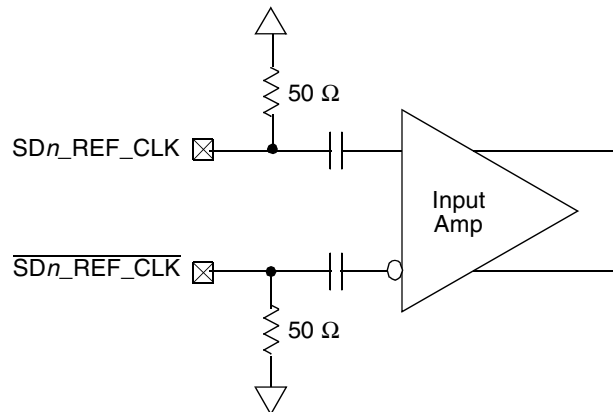

Figure 39. Receiver of SerDes Reference Clocks
Figure 39 shows a receiver reference diagram of the SerDes reference clocks.
- The  $\text{SD}n_{\text{REF\_CLK}}$  and  $\overline{\text{SD}n_{\text{REF\_CLK}}}$  are internally AC-coupled differential inputs as shown in Figure 39. Each differential clock input ( $\text{SD}n_{\text{REF\_CLK}}$  or  $\overline{\text{SD}n_{\text{REF\_CLK}}}$ ) has a 50- $\Omega$  termination to SGND followed by on-chip AC-coupling.